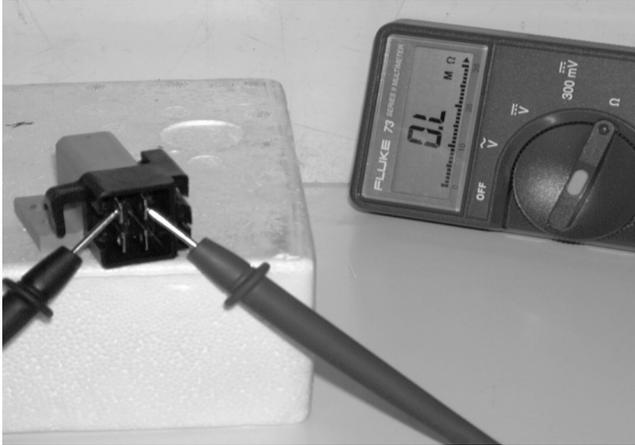

FIGURE 5.
-There will be **NO CONTINUITY**. See figure 5.